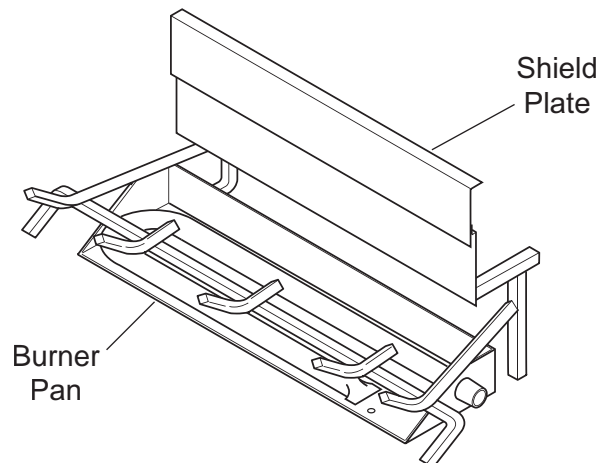

Figure 102 - Sliding Shield Plate Down Back of Burner Pan
1. Slide shield plate down back of burner pan. *See Figure 102.*